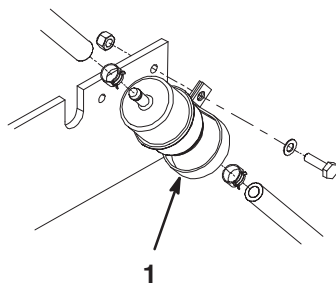

Figure 1
2. Loosen the hose clamps securing the fuel hoses to the in-line fuel filter (Fig. 1). Remove the hoses from the filter. Plug the hose ends to prevent any fuel loss. Retain the hose clamps for re-use later.
3. Remove the nuts, washers and screws securing the fuel filter R-clamp to the left front engine mount (Fig. 1). Remove and discard the R-clamp and the fuel filter.